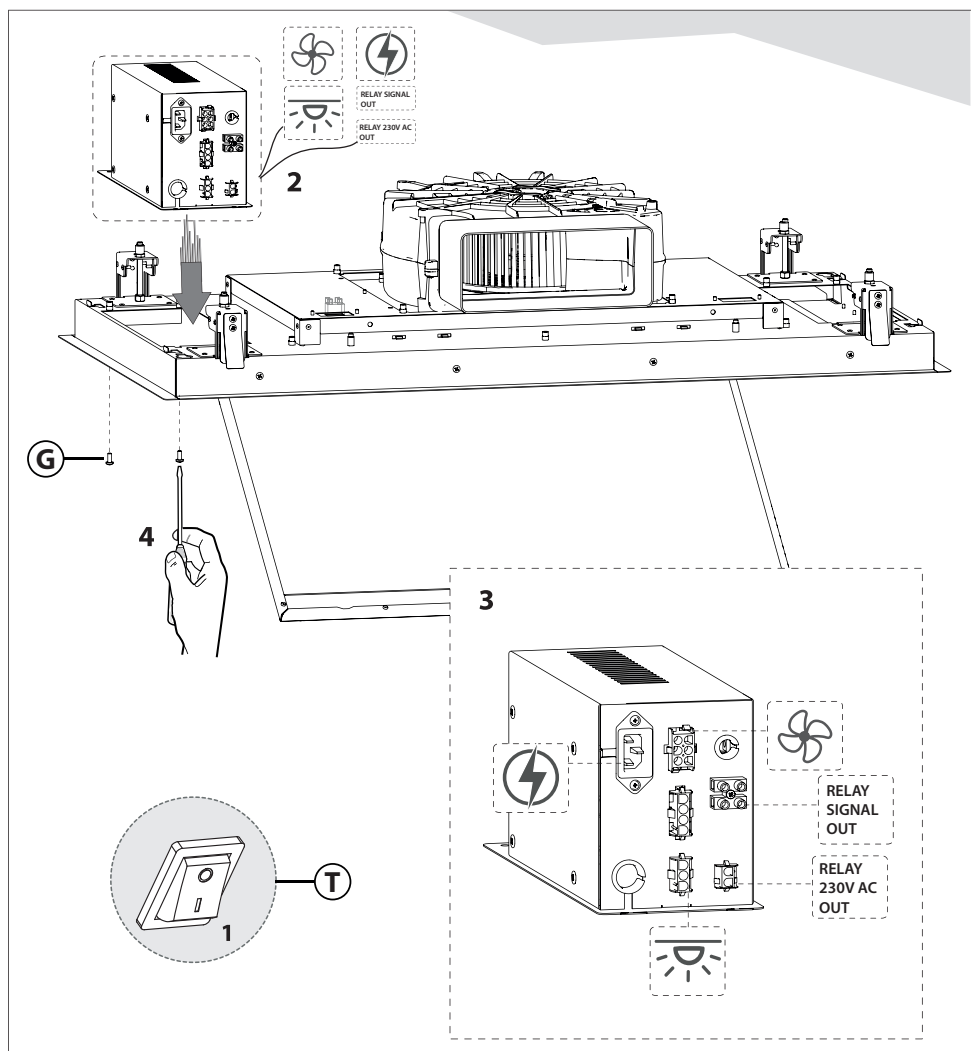

Fig.11
- Turn the switch **T** to the OFF position and disconnect all connections (Fig.11).
- Check that the switch **T** of the electronic box is in the OFF position and connect the connectors (power supply, light, control, motor); then secure the electronic box as shown in figure 11.